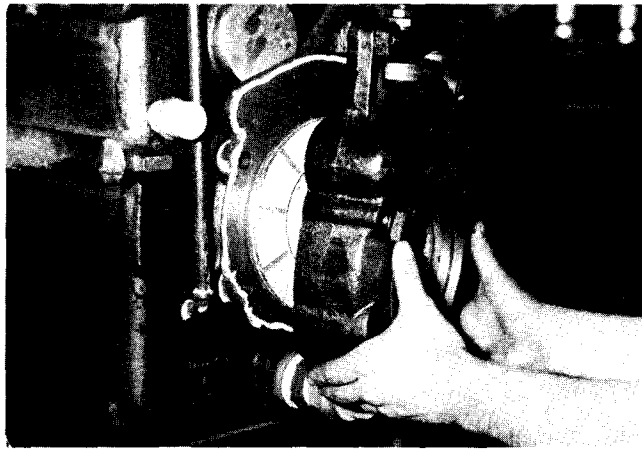

Figure 12
10. Install brake housing, actuator and disc as an assembly and bolt down. Use silicone sealer to seal housing to mounting plate. (Figures 12&13)